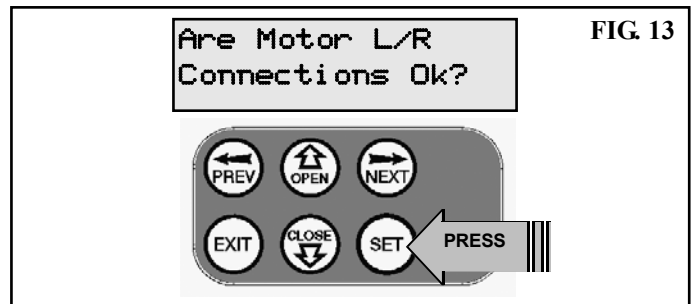

FIG. 13
1. Confirm motor connection is set for correct side (Fig. 13).